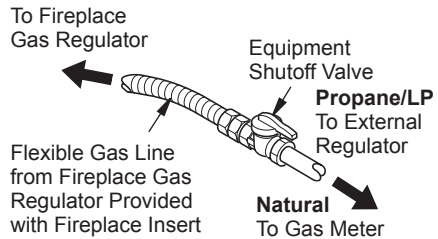

Figure 16 - Attaching Flexible Gas Lines Together
NOTICE: Most building codes do not permit concealed gas connections. A flexible gas line is provided to allow accessibility from the fireplace (see Figure 16). The flexible gas supply line connection to the equipment shutoff valve should be accessible.
4. Connect gas supply line to flexible gas line attached to gas regulator of fireplace insert (see Figure 16). Use sealant on all male pipe threads.